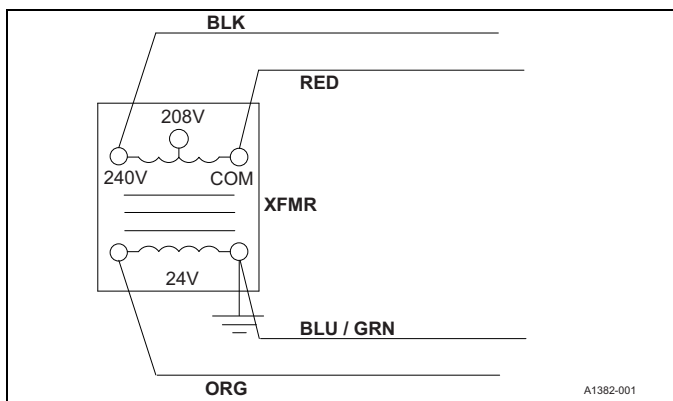

Figure 9: Air handler control transformer
1. If indoor equipment is an air handler, confirm the wiring connected to the air handler transformer is as shown in Figure 9. If not, correct as necessary.